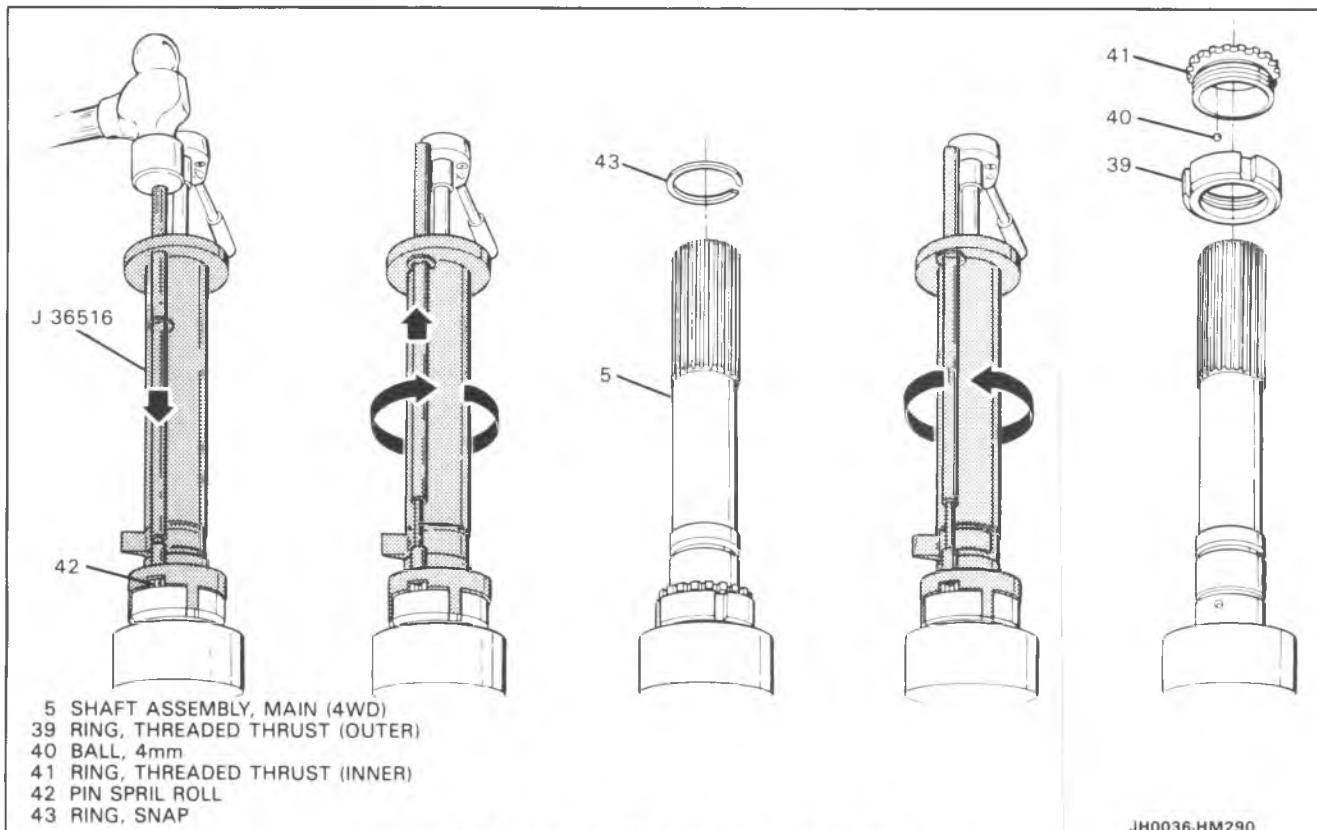

Figure 23 Removing 4WD Threaded Thrust Rings
1. Spiral roll pin (42) using J 36516 (Figure 23).